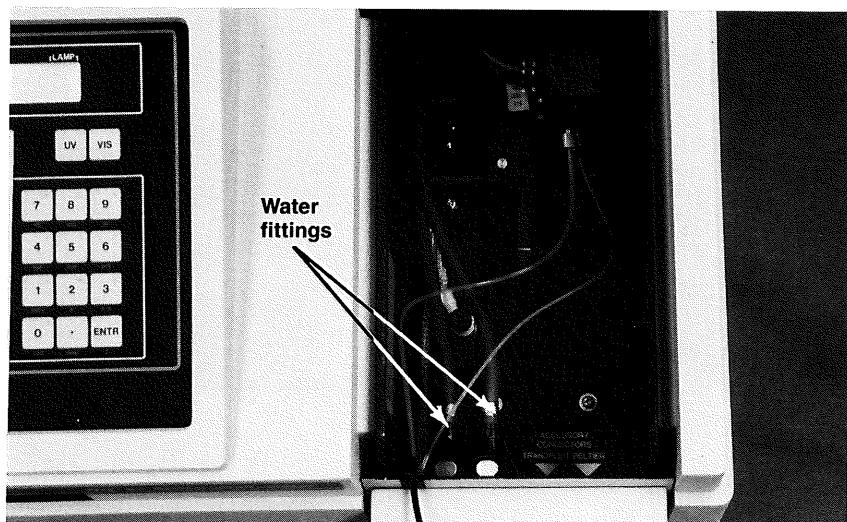

Figure 17.
19. Route the water tubing between the rails and the left-hand wall of the sample compartment, leaving the excess tubing at the back of the sample compartment. Plug the tubing into the water fittings on the sipper panel. See Figure 17. Check to ensure that the water tubing does not block the light path.